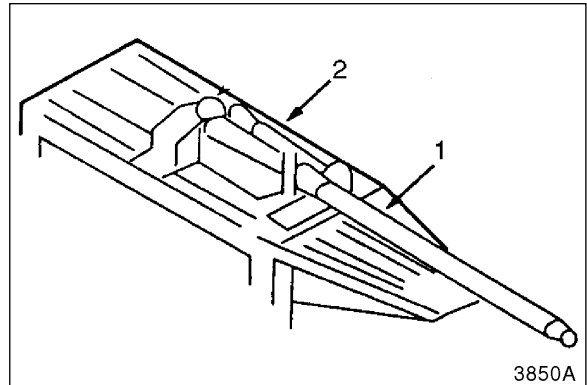

Figure 31
17. Set cylinder rod (1, Figure 31) into a repair fixture (2). Securely clamp rod to fixture. Exercise caution to prevent nicks or scratches to chrome plated areas of rod. chrome plated area is oil sealing surface of rod.